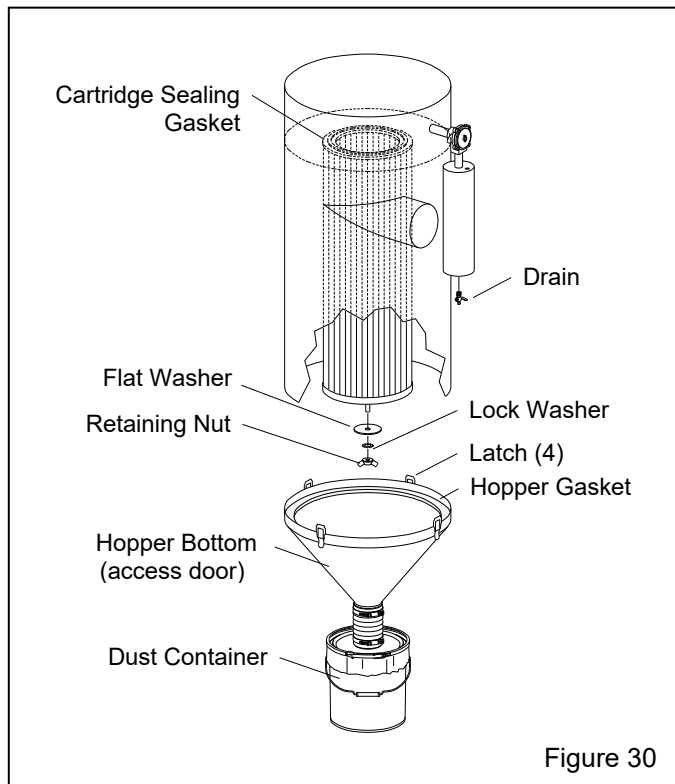

Figure 30
7.9.4 Refer to Figure 30 and unlatch the dust-collector hopper bottom and remove it from under the collector.